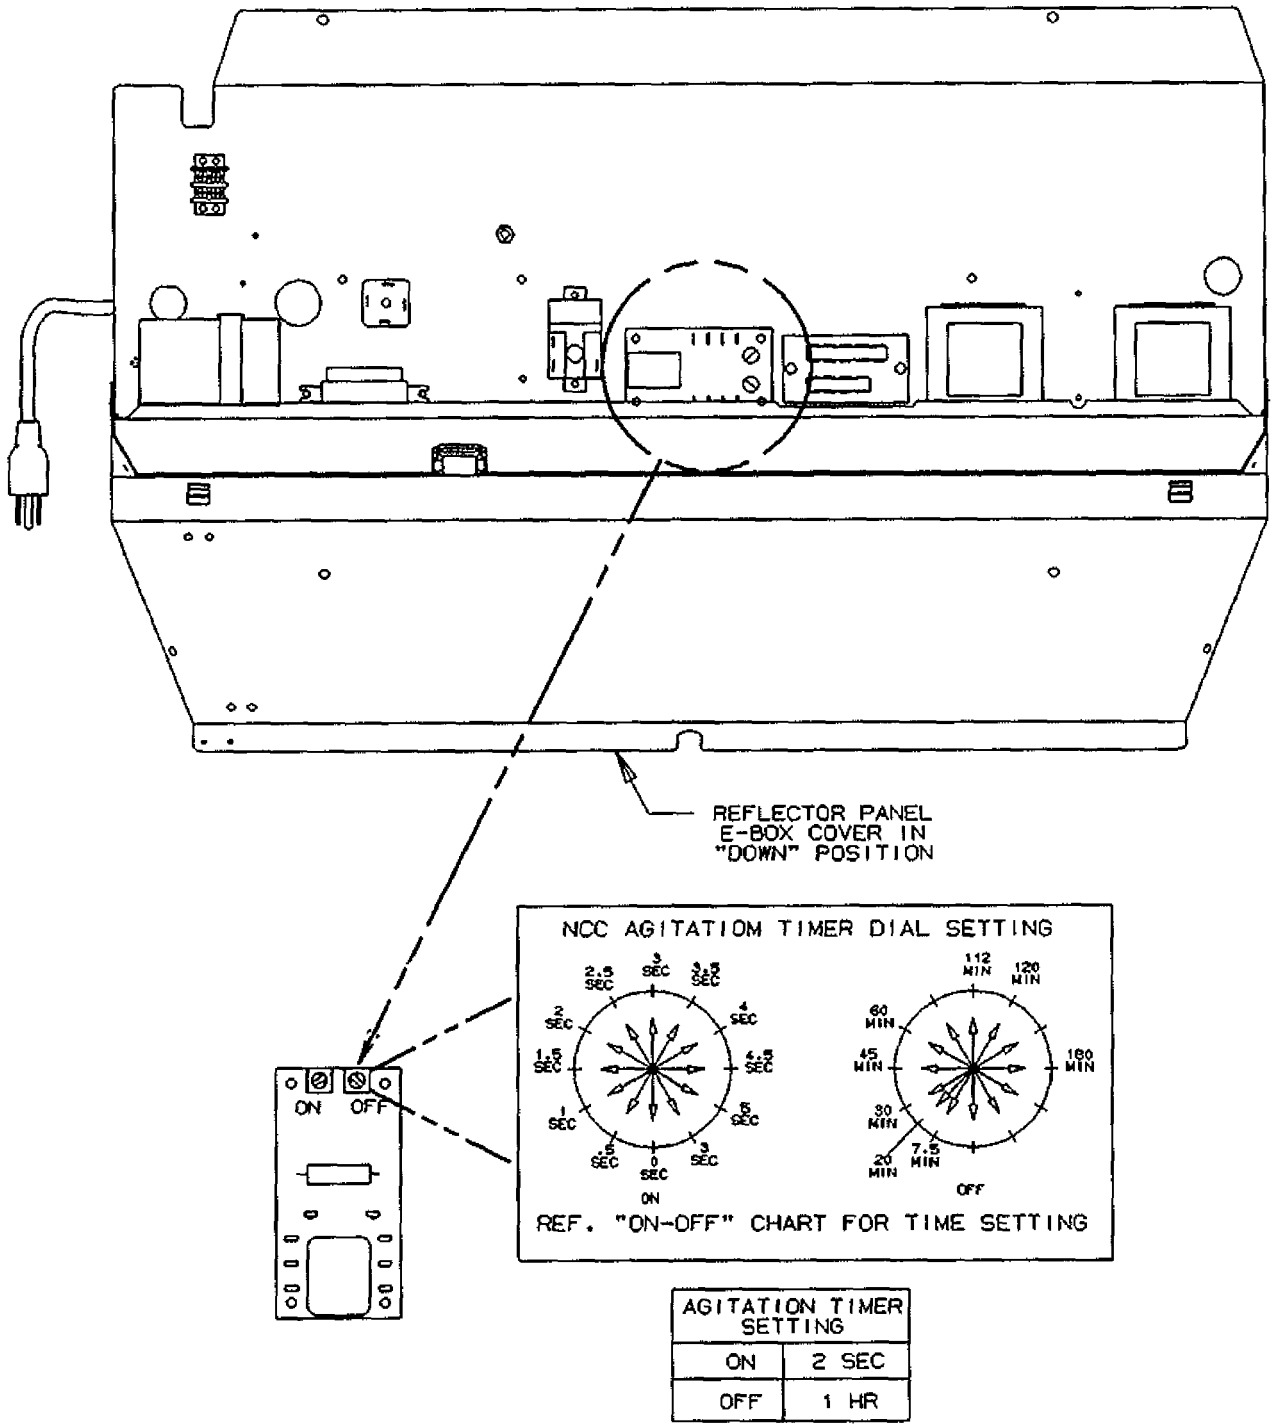

FIGURE 3.
- Refer to Figure 3 for adjusting the automatic agitation timer.
- Adjust the timer to 2-seconds "ON" and 1-hour "OFF" as shown in Figure 3.